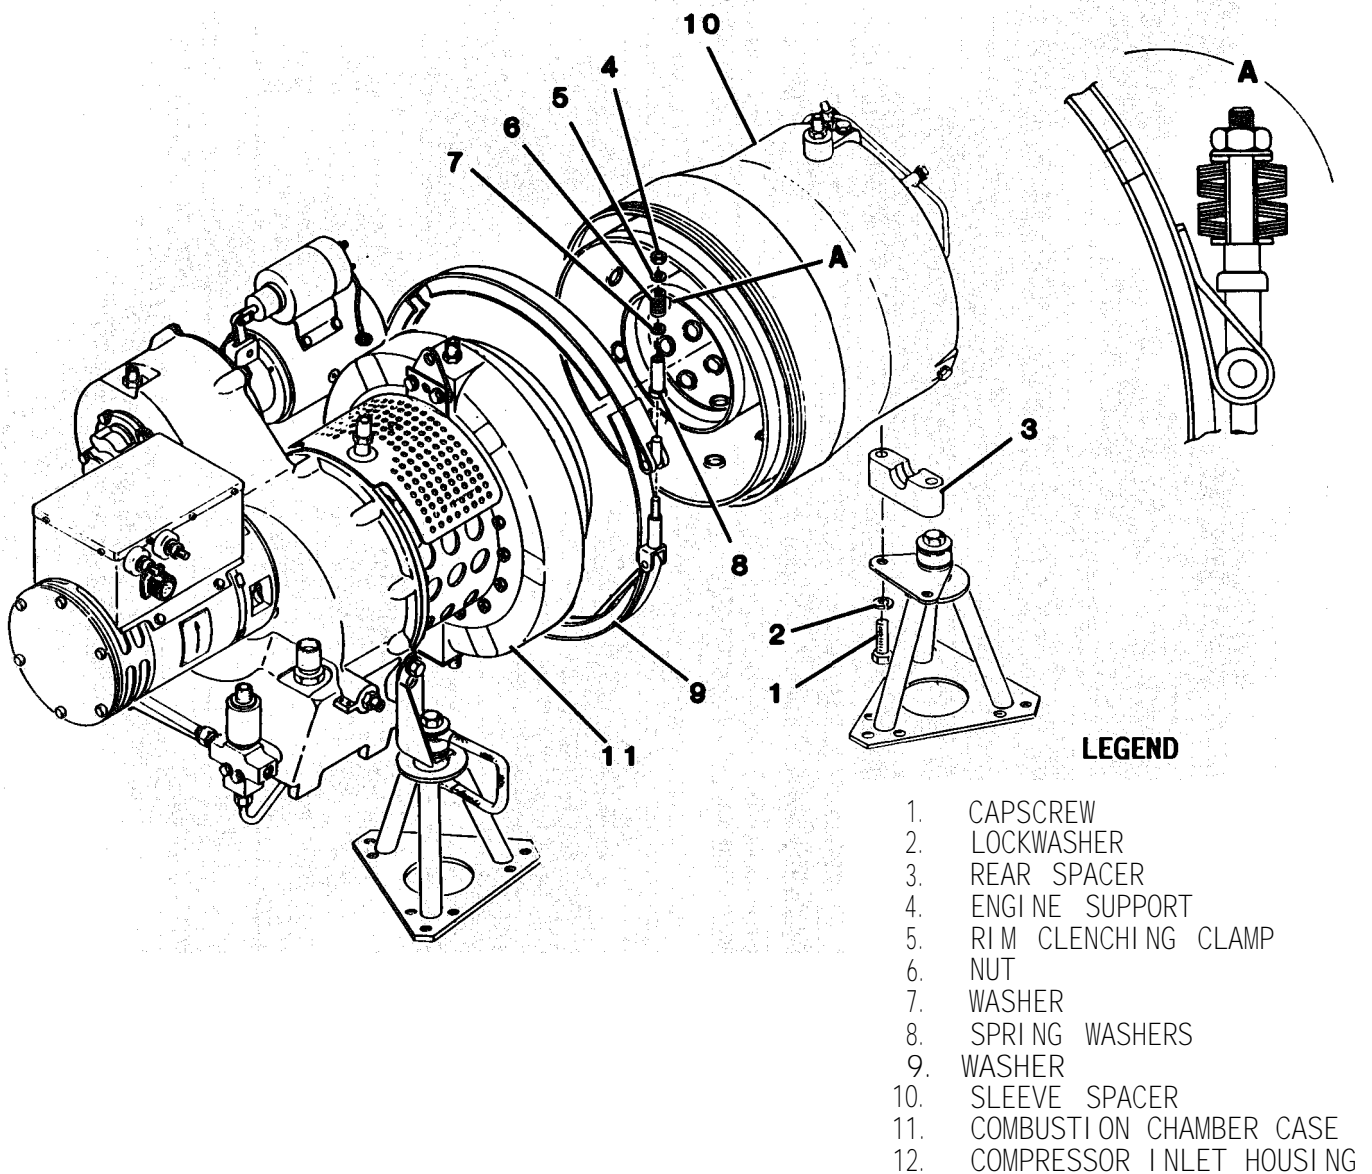

Figure 8-1. Combustion Chamber Case Assembly Removal
(4) Insert block of wood (3/4 in. by 1-1/2 in. by 4 in.) under gearbox.
(5) Remove capscrew (1, figure 8-1), lockwasher (2), and rear spacer (3).